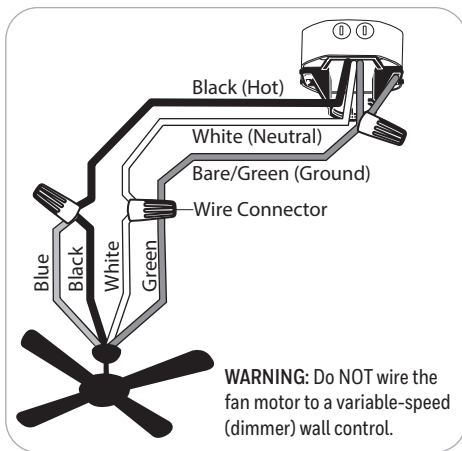

Figure 4.1
1. Use wire connectors to connect household supply and fan wires according to the diagram (Figure 4.1) and the following steps: